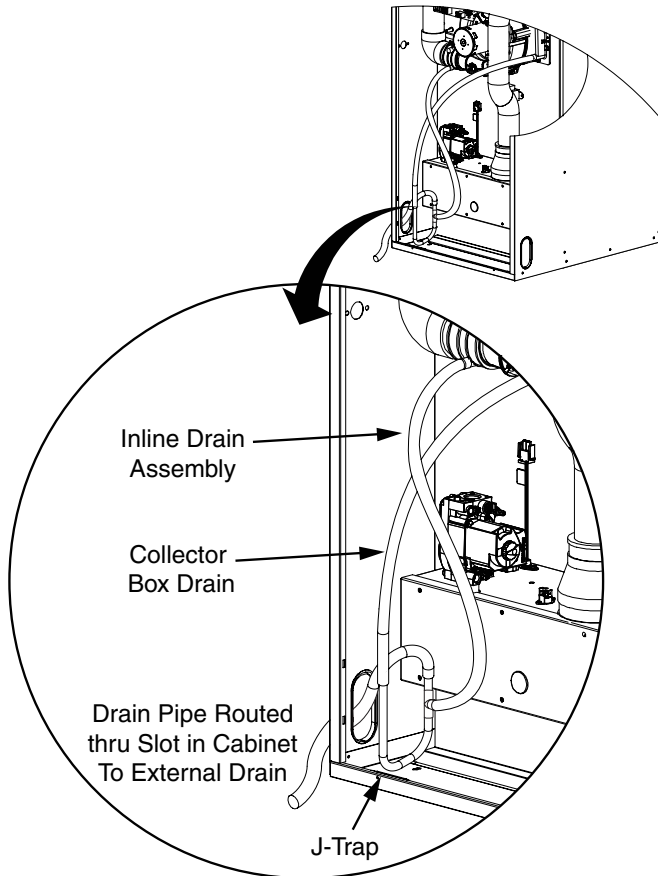

Figure 11. Condensate Drainage
- The condensate drain may exit through the left or right slots in the bottom of the furnace (Figure 11). Make sure the flexible drain hose is not kinked.
1. Remove the collector box soft tube (Figure 11) and verify the exit from the collector box is clear of any debris or obstructions.